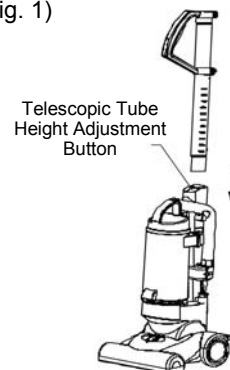

Fig. 1
4. Press down on the telescopic tube height adjustment button while pushing the telescopic tube down. (Fig. 1)